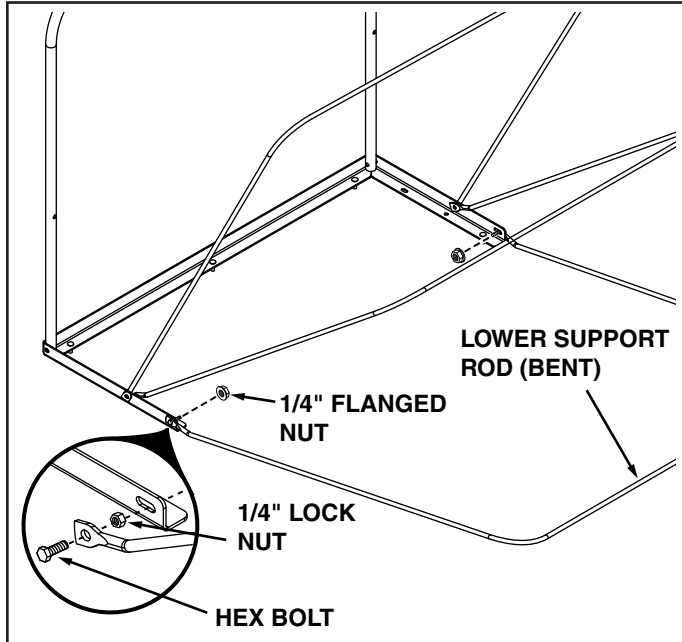

FIGURE 11
- Assemble the provided bolt and lock nut to each end of the lower support rod. **TIGHTEN**, then back nut off 1/2 turn. See figure 11.
- Attach the lower support rod to the **outside** of the top support angle using the two 1/4" flanged nuts. **TIGHTEN**. See figure 11